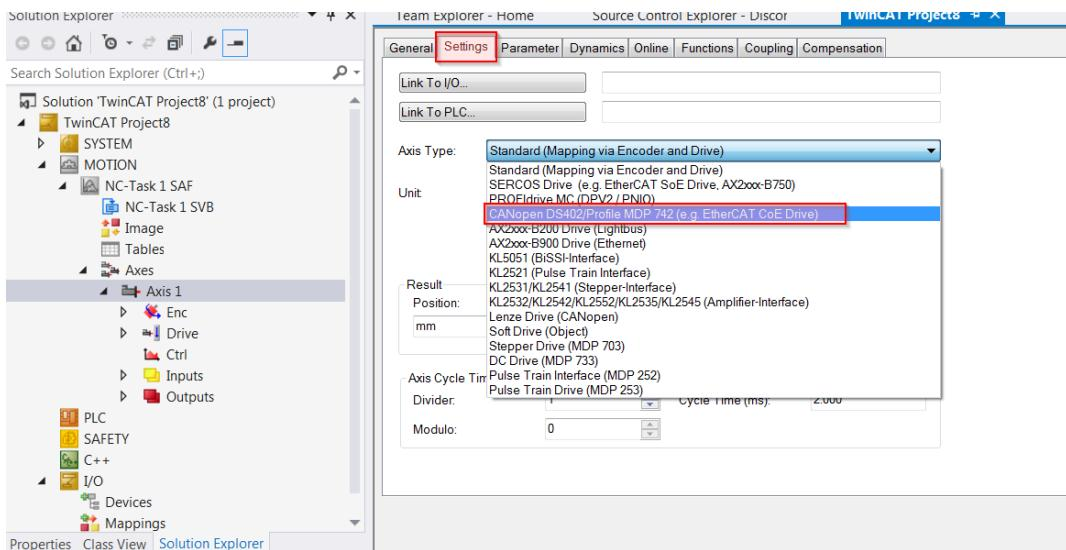

Figure 41: TwinCAT 3 CiA402 axis setup
- TwinCAT 3** : Open the context menu of the MOTION TreeItem -> "Add New Item" -> Type "NC/PTP NCI Configuration" -> Open the context menu of the new created "Axes" TreeItem -> "Add New Item" -> Type "Continuous Axis" -> set Axis type to "CANopen DS402" (see Figure 41: TwinCAT 3 CiA402 axis setup).